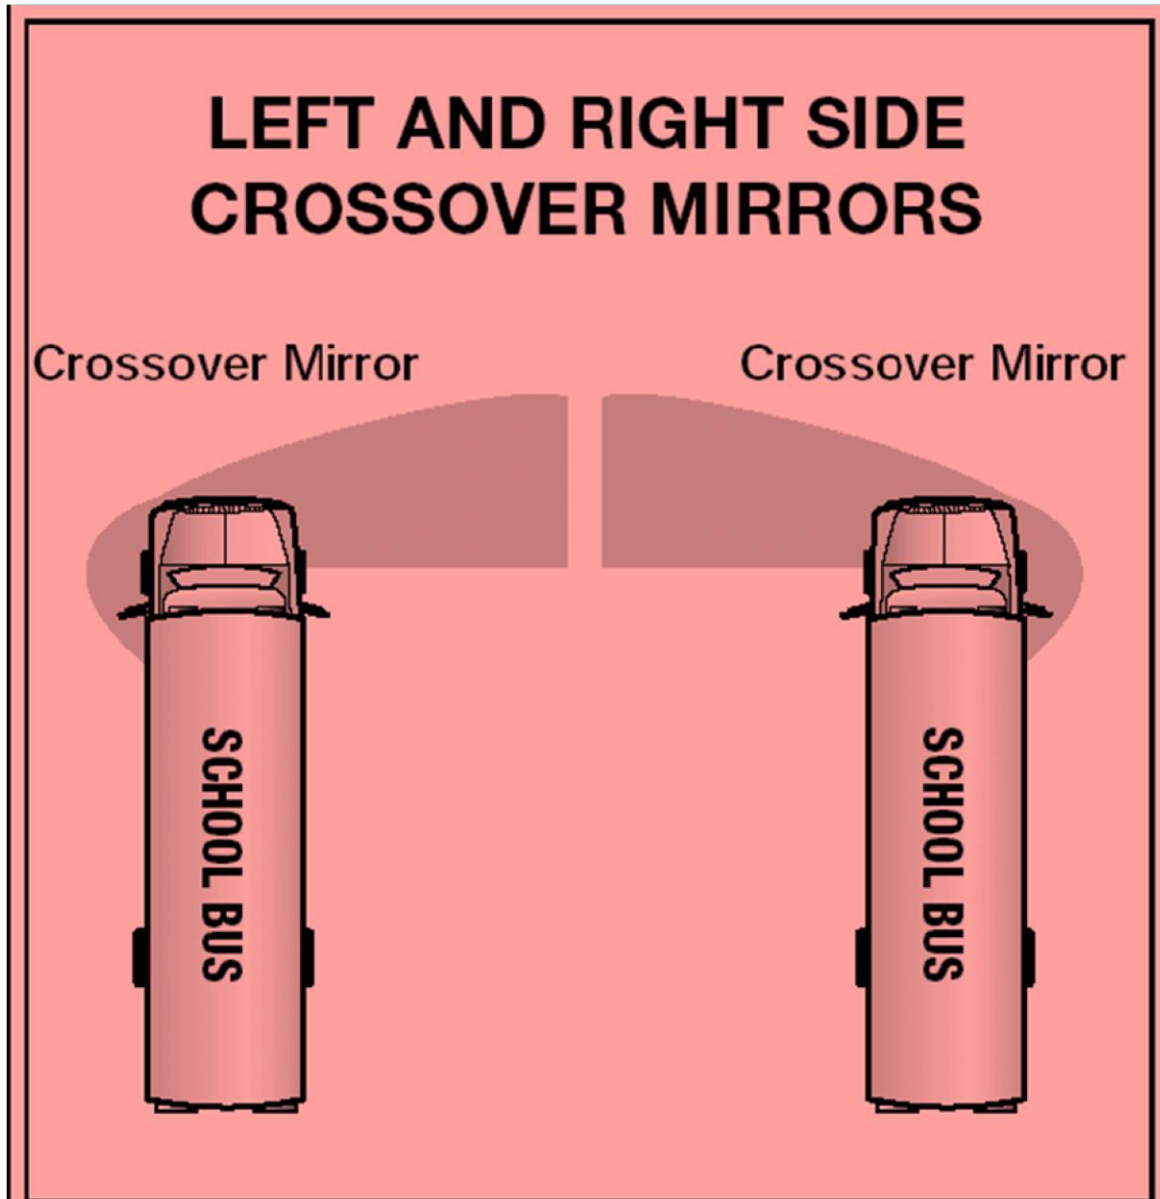

Figure10.4
- Figure 10.4 illustrates how the left and right-side crossover mirrors should be adjusted.